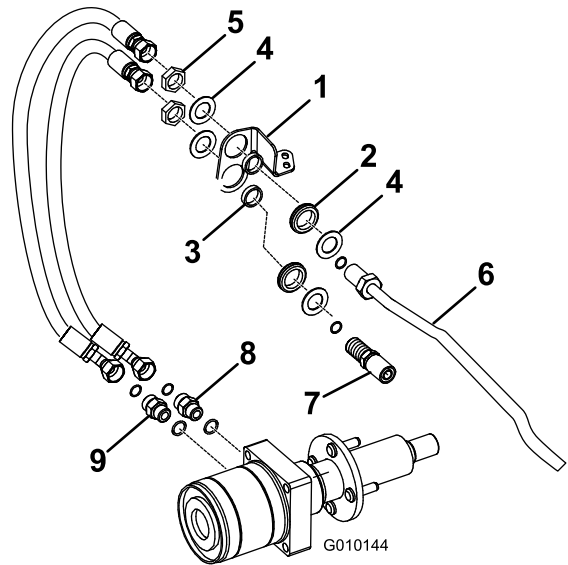
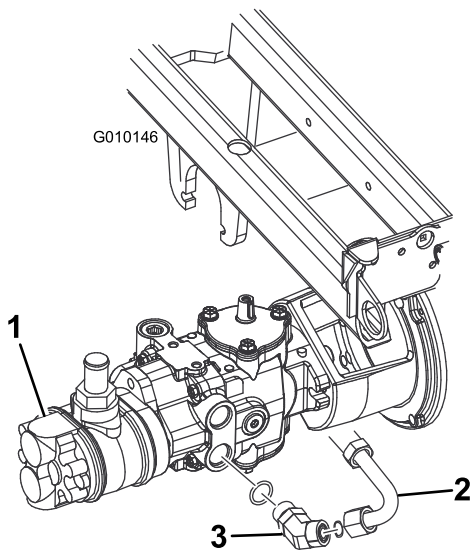
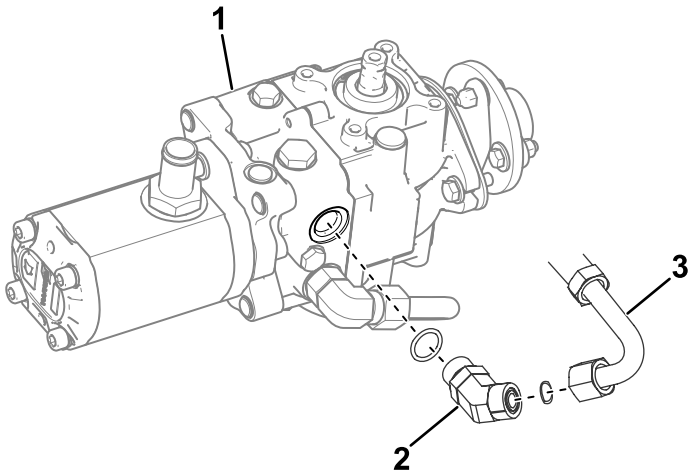

Figure 8
Figure 9
Figure 10
8. Install the grommets and spacers to the bulkhead bracket as shown in Figure 8.
11. Assemble the bulkhead bracket to the hydraulic hard line with nuts and washers (supplied in kit) as shown in Figure 8.
Use a washer and a nut to loosely install the pump hose assembly to the 45° fitting on the pump and to the lower hole in the bulkhead bracket (Figure 8 and Figure 9).
Use a washer and a nut to loosely install the pump hose assembly to the 45° fitting on the pump and to the lower hole in the bulkhead bracket (Figure 8 and Figure 10).
13. Loosely install a hydraulic hose to the pump hose assembly (lower bulkhead) and to the upper-wheel motor fitting (Figure 8).